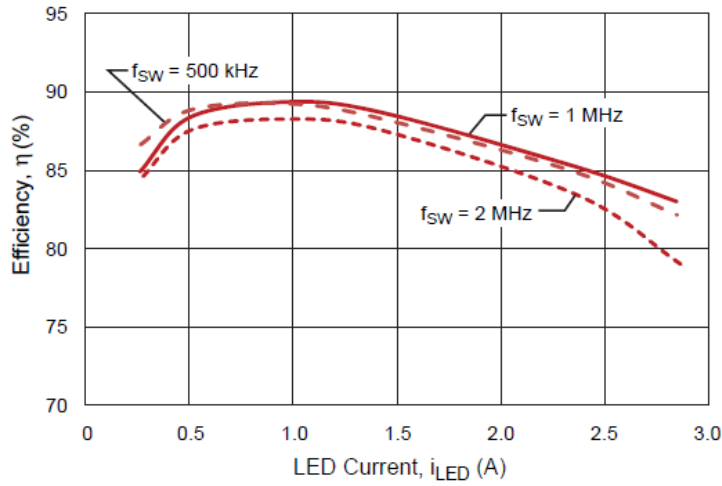

fig.25 Efficiency versus LED Current at various switching frequencies Operating conditions: VIN = 12 V, VOUT = 5.5 V
- 1) Reel packing figure (Refer to fig25)